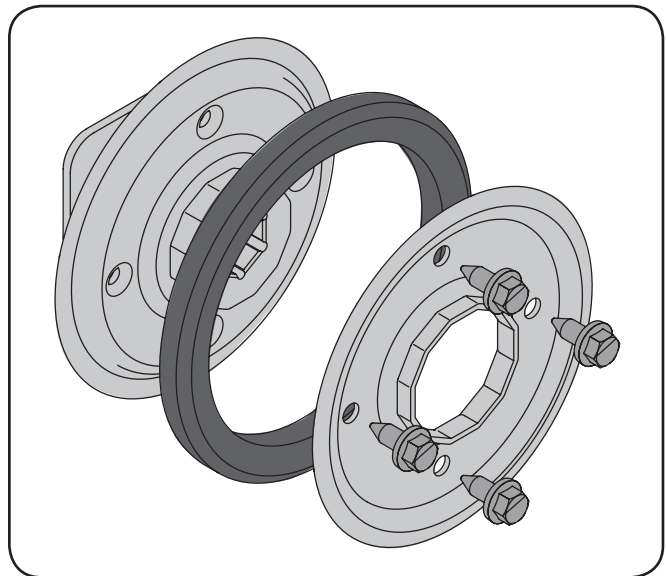

Figure 7-11
- Remove the four screws which secure the friction wheel's side plates together. See Fig. 7-11.